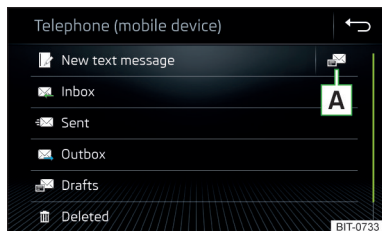

Fig. 157
► In the main *Telephone* menu, tap the function surface  The main menu for text messages appears » Fig. 157.
- In the main menu of the text messages, tap on function surface  inter-face» Fig. 157 on page 135.